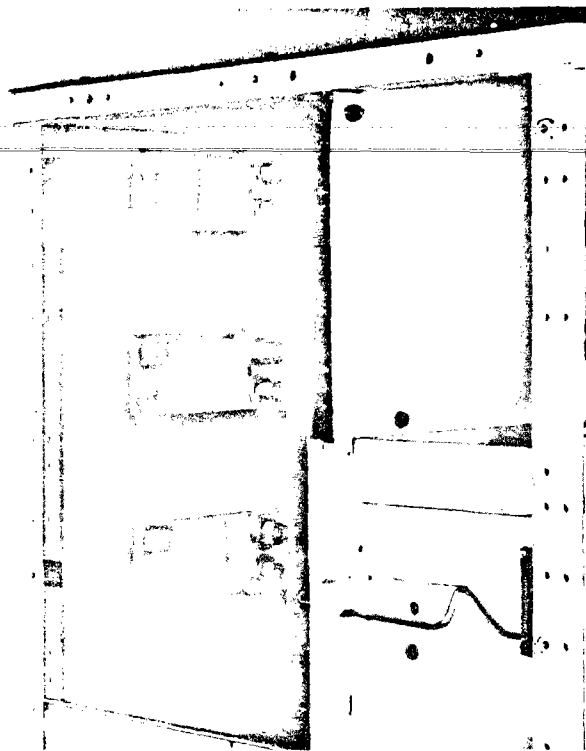

Figure 1
(1) Side sheets must be removed from adjacent vertical structures to be joined. (These sheets will have been removed from factory assembled sections.)
(2) The horizontal bus splice plates and connection hardware will be packed in the top horizontal wireway. These splice plates should preferably be attached first to the bus in the structure on the left side of the right hand section, whether existing or to be installed. Refer to Figure 1. This method provides the most convenient access to the bolts, and eliminates need for removal of the horizontal bus barriers in that structure. Should the existing bus be oxidized, sand lightly with a fine aluminum oxide paper. **CAUTION** — do not use emery cloth or any abrasive containing metal.